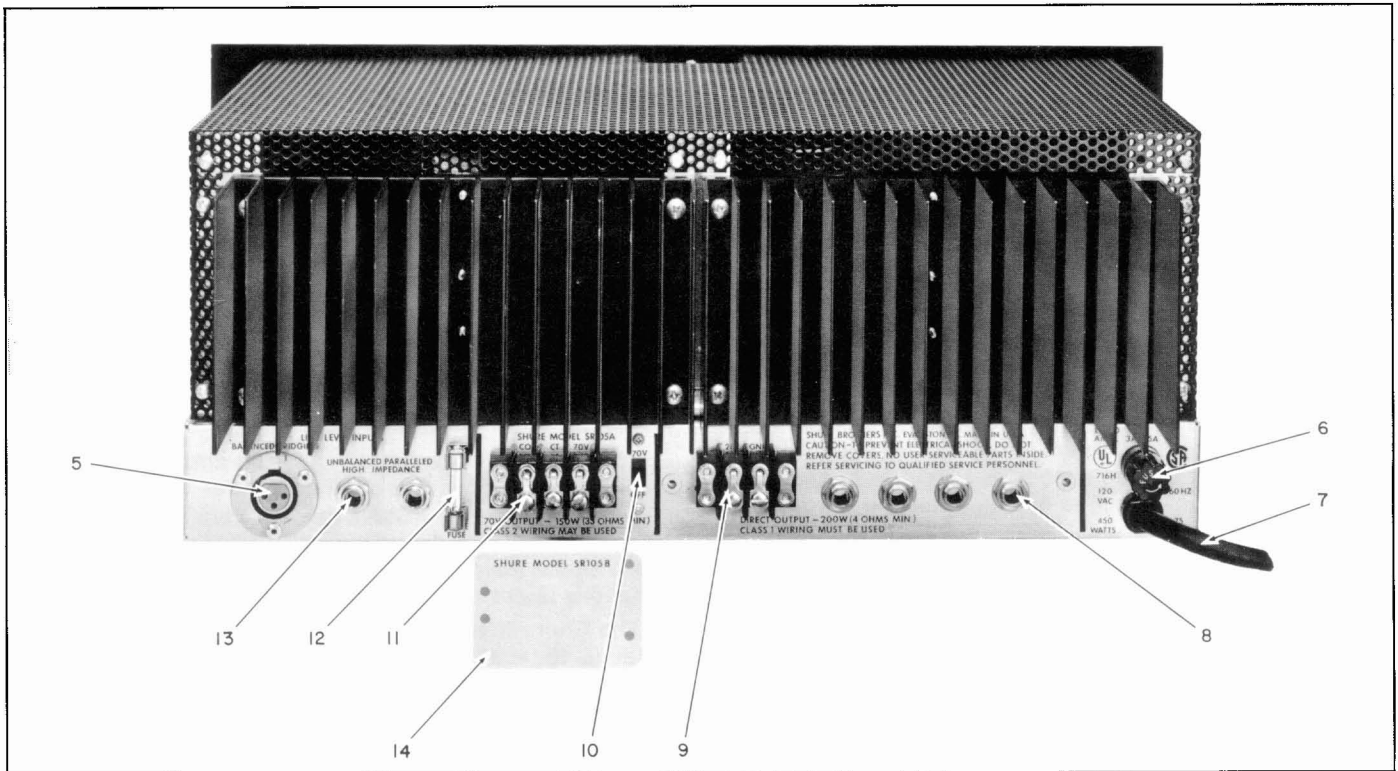

FIGURE 2. SR105 POWER AMPLIFIER REAR PANEL (SR105A MODEL SHOWN)
Three LINE LEVEL INPUTS Connectors are located on the rear panel of the Amplifier (see Figure 2, Page 2). A professional, three-pin, female audio connector (5)\* provides a balanced bridging, high-impedance input connection. Unbalanced, high-impedance input connections are provided by two standard ¼" phone jacks (13) wired in parallel.
Four standard 1/4" phone jacks (8) and one two-terminal barrier strip (9) on the rear panel of the Amplifier provide direct-coupled speaker output connections (see Figure 2, Page 2). All connectors are wired in parallel and provide for simultaneous connection of a number of speaker systems. A three-terminal barrier strip (11), labeled 70V OUTPUT (SR105A Amplifier only), provides for connection to the 70-volt output of the Amplifier (see Figure 2, Page 2). This output is present only when the 70V-OFF Switch (10) is set to the 70V position.